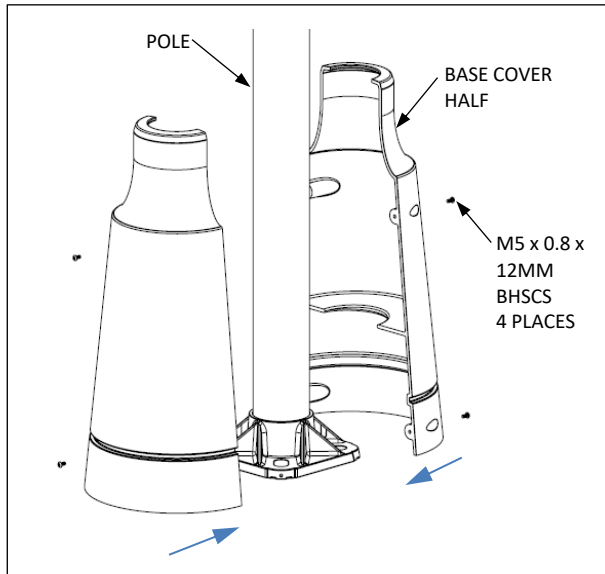

Fig. 6 – Install optional base cover
1. Place base covers in position. Using 3mm hex key, install M5x0.8x12mm button head cap screws (4 places) as shown in Fig. 6.